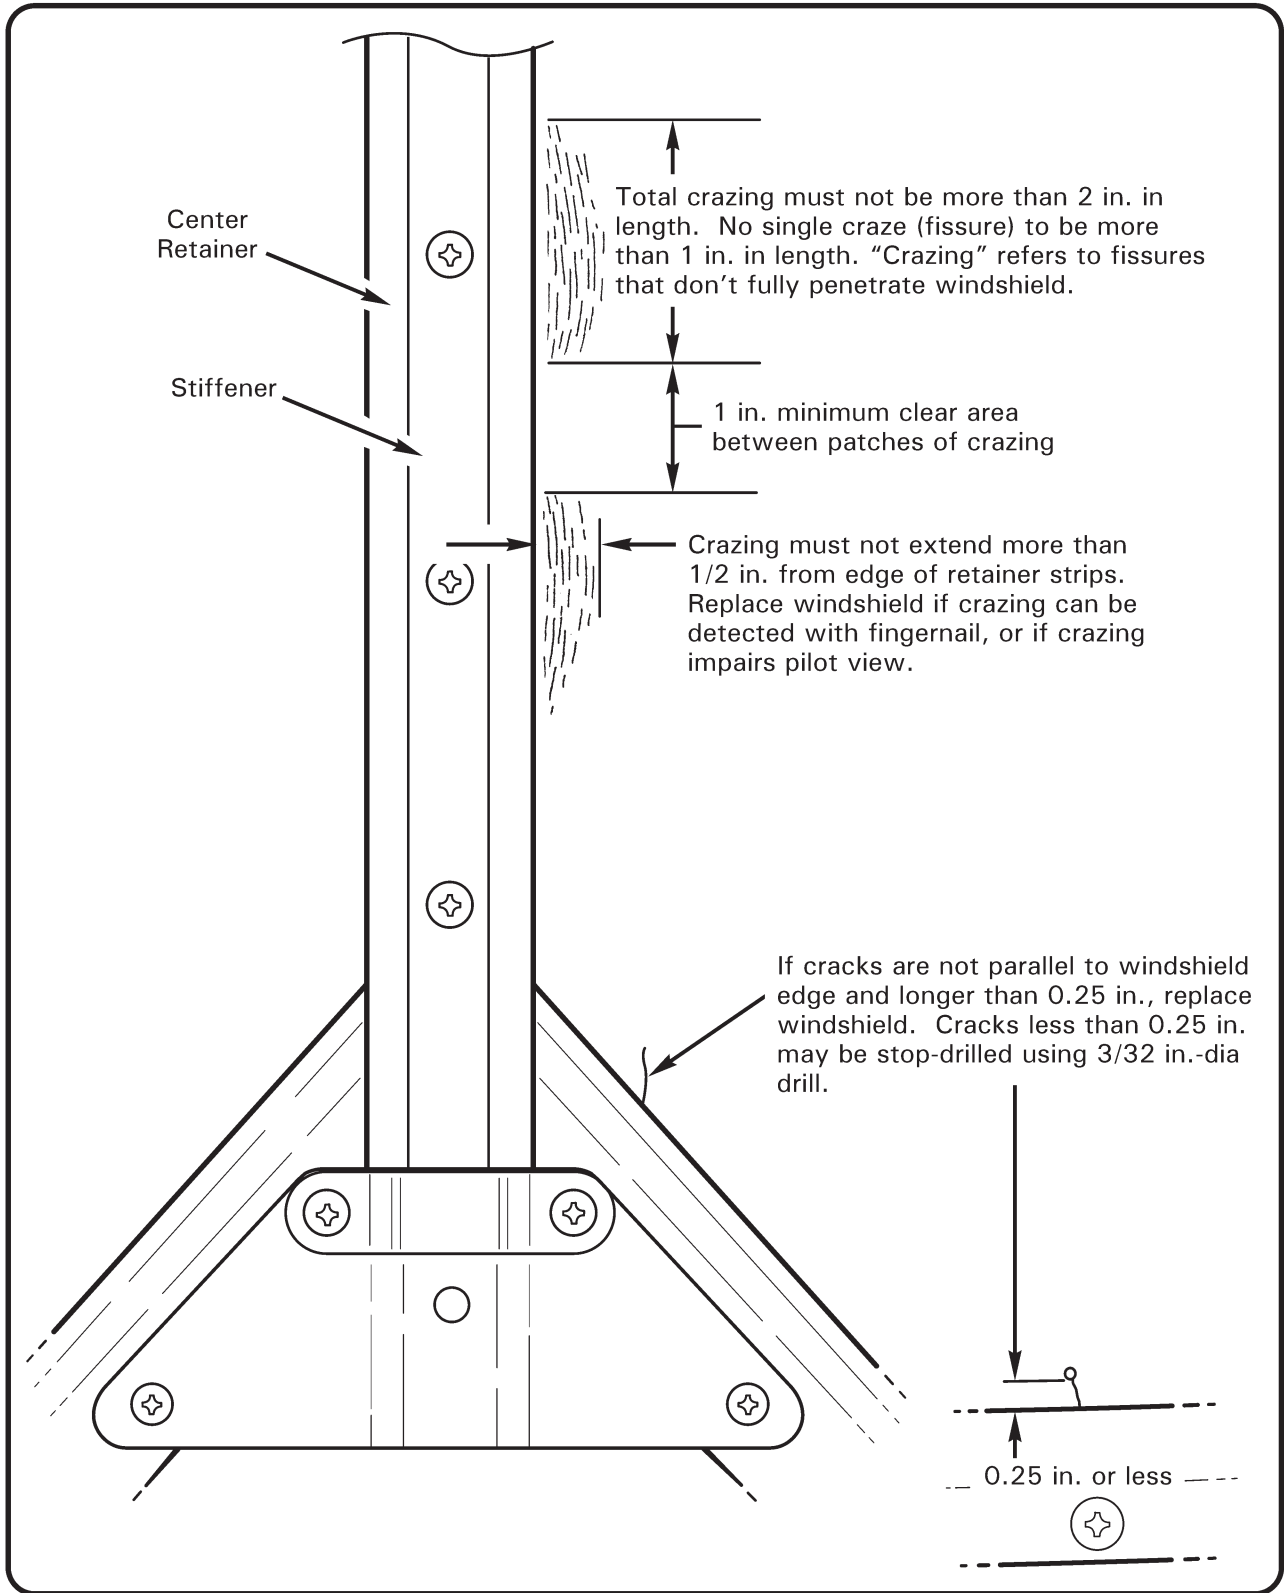

FIGURE 52-3 WINDSHIELD INSPECTION
1. Inspect windshield for cracks and crazing adjacent to retainer strips per Figure 52-3. If cracks exceed these limits, replace windshields per § 52-30 Part D.